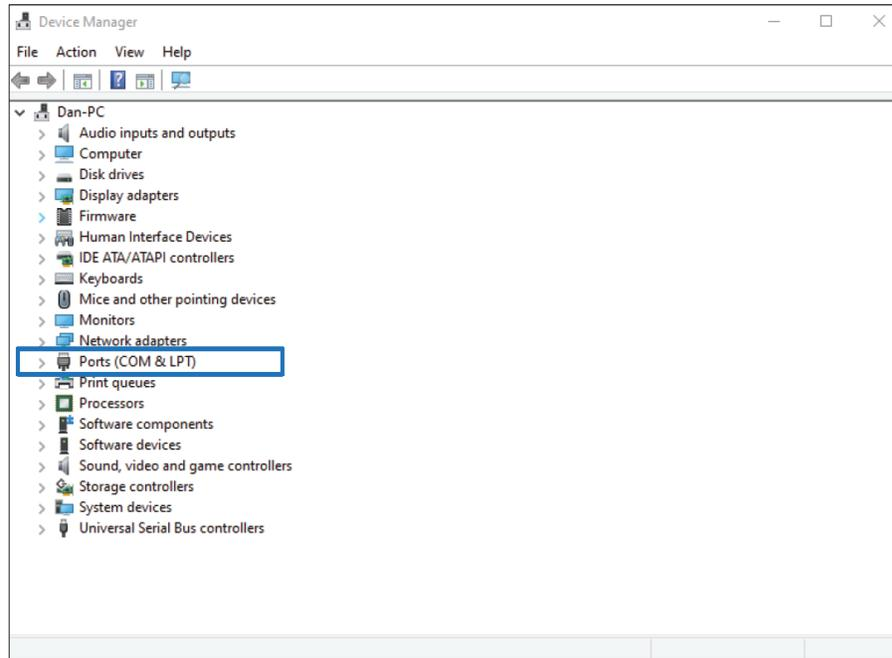

Figure 13
2. Look for “Ports (Com & LPT)”. (Figure 13)